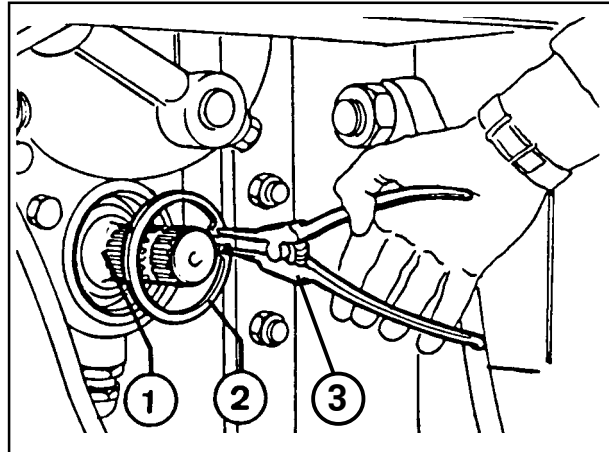

Fig.4-34
To change the output shaft, first remove the spring ring (2 - Fig. 4-34) using special nippers (3).